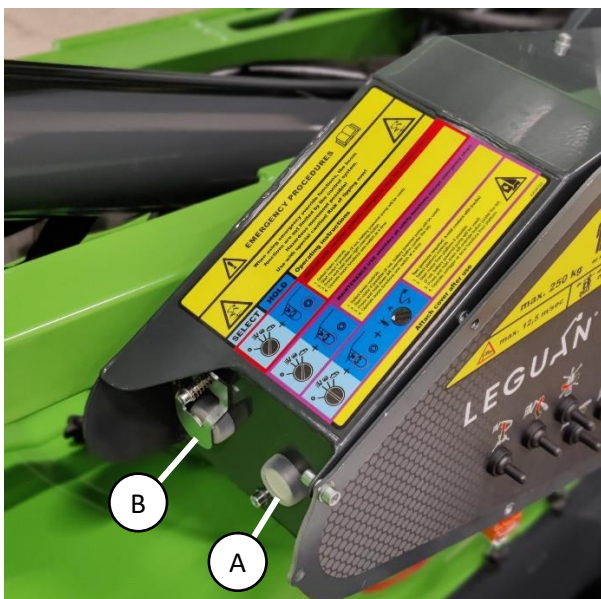

Figure 9. Override buttons
For possible emergency situations the access platform is equipped with load control override button (figure 9 (A)). The button must only be used in extreme emergency situations, for example the operator has lost consciousness in the platform and must be lowered for their safety. The platform must be moved to directions that decrease the overturning moment (towards the center of the machine). **The manufacturer is not responsible for misuse of the function!** The override button is located on the left-hand side of the lower control panel and is only operational when lower control is selected as the active control position.
3. Press and hold the override button closer to the operator (figure 9 (A)).
For possible emergency situations the access platform is equipped with a safety function override button (figure 9 (B)). It enables the operation of drive, outrigger and boom functions in fault situations. The function can for example used in a situation where a sensor has broken, and the machine must be moved to a safe location to be repaired. **Use extreme caution and only in emergency situation!**
3. Press and hold the override button under the lid further from the operator (figure 9 (B)).